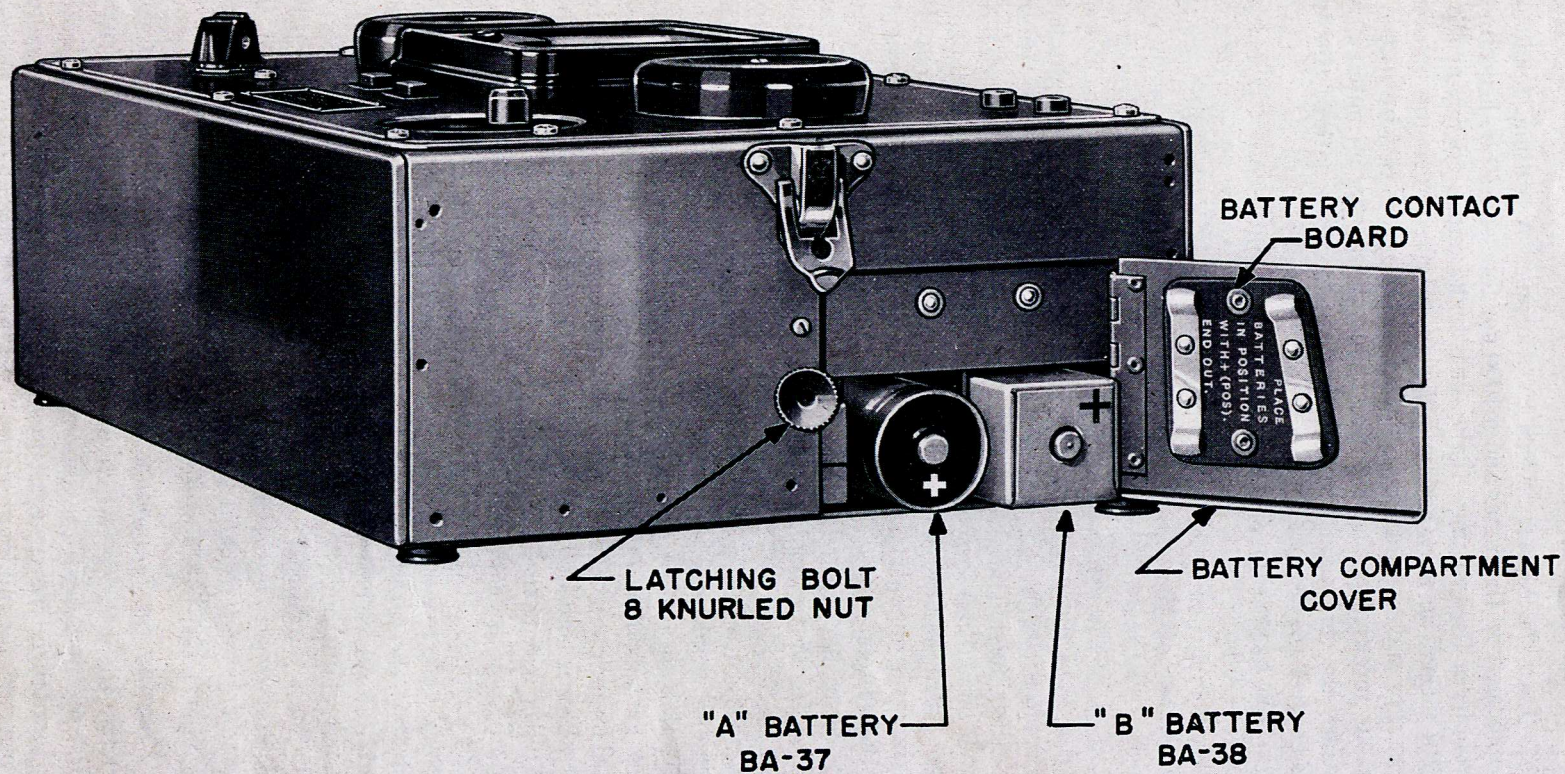

FIG. 14. TEST EQUIPMENT I-135-B, SHOWING BATTERY COMPARTMENT
(1) Remove the chassis of the Radio Receiver and Transmitter BC-721-A to be aligned from its housing. To do this unlatch the bottom cover of the housing and remove the batteries. Place the batteries into their respective compartments in Test Unit I-135-B. See Figure 14. Disconnect the microphone and earphone plugs from the terminal board on the end of the chassis. Now remove the screw in the top cover of the housing, and the chassis will slide out of the bottom of the housing.
(2) Remove the transmitter crystal from the chassis or use an extra crystal of the exact carrier frequency and place it in the crystal socket on the front panel of the test unit. Set the master switch of the test unit to the "OFF" position.
(3) Place the chassis into Test Case CS-81-A housing. The chassis must be inserted into the test case through the bottom, as is done when inserting the chassis into its own housing. Take care that the chassis fits between the guides provided for it in the case. It should not be necessary to force the chassis. If force is necessary, withdraw the chassis and check to see that no parts are catching on the test case or that the chassis has not jumped the guides. Slip the top cover over the antenna rod and fasten the chassis to it with the $\frac{8}{32}$ mounting screw. The chassis will now be held securely in the test case. *Now remove the plate current meter jumper from the terminal board at the end of the chassis.* CAUTION: Do not misplace.
(4) Pull out the antenna rod and then attach the terminal board of the harness to the terminal board of the chassis, so that the two small pins on the harness terminal board fit into the plate current meter jacks, and that the two large locking pins, one on each end of the terminal board, fit into the holes provided for them. Lock the two terminal boards together by a sideward movement of the levers attached to the locking pins.
(5) Next clamp the Test Case CS-81-A into the Test Stand FT-295-A with the antenna end up, and the housing in such position that the change-over switch is opposite the left side of the operator as he faces the stand. The upper clamp should grasp the housing on the edges of the top cover. The lower clamp should not be made too tight as the pressure may crack the housing.